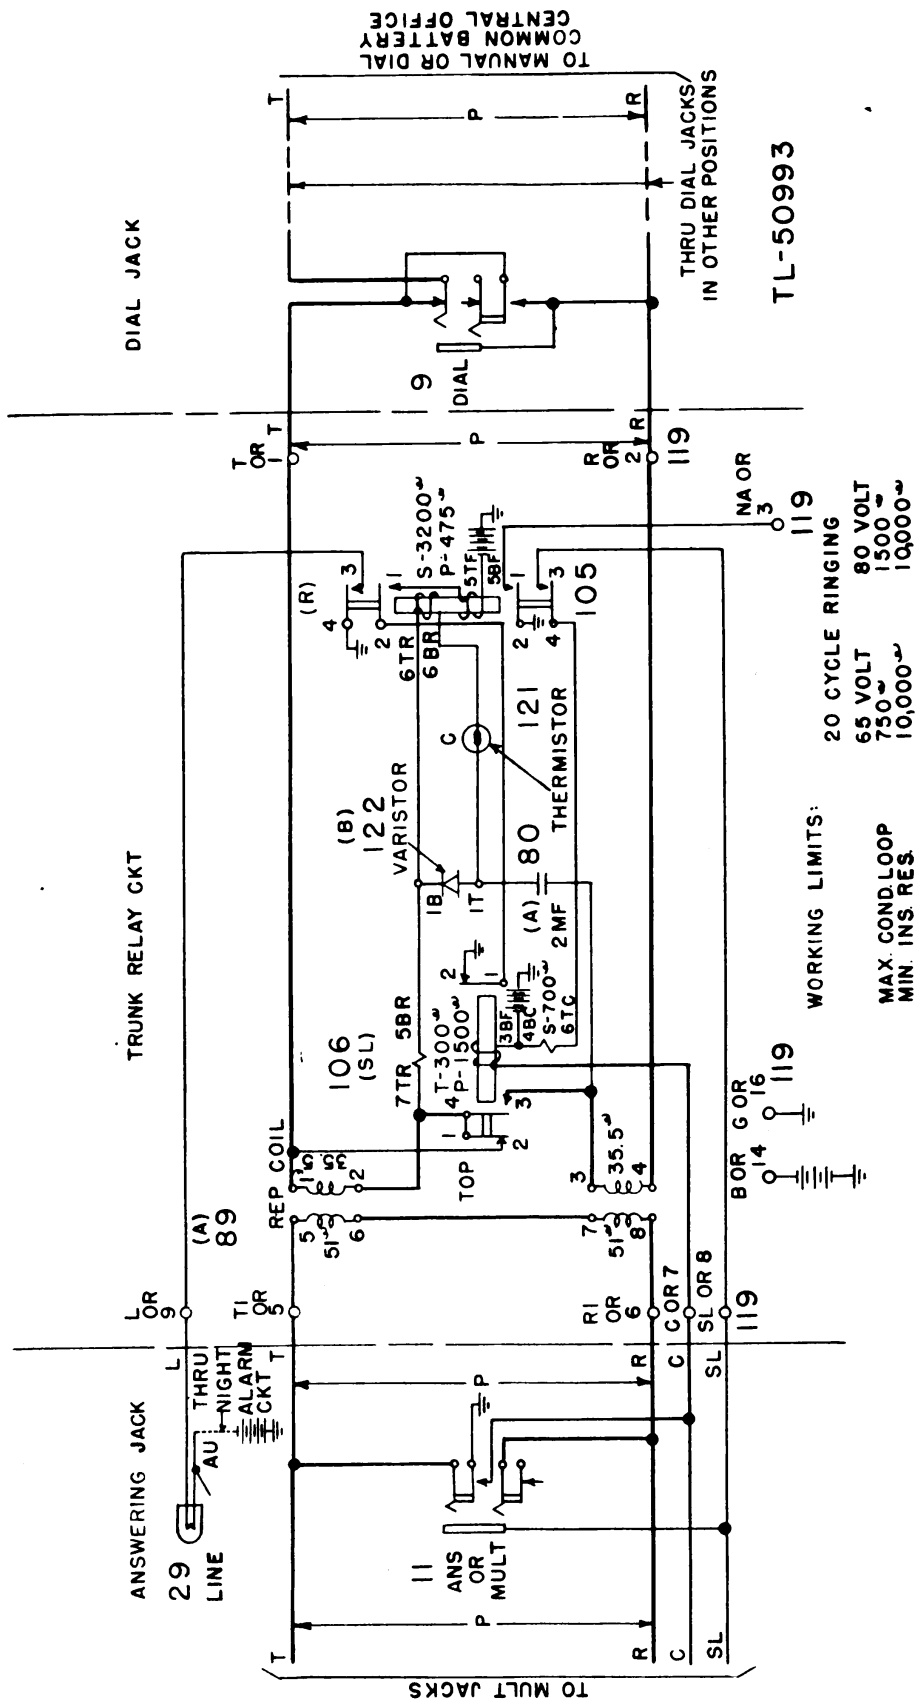

Figure 35. Universal trunk circuit, schematic diagram, Switchboard BD-110-().
(1) Magneto line circuits in Switchboard BD-14, BD-71, BD-72-(), BD-80-(), BD-89-(), BD-91-(), BD-96, other BD-110-(), and commercial switchboards.
(2) Line circuits equipped with ring-down relays and arranged for two-way ringing in Switchboards BD-74 and BD-78 and in commercial switchboards.
18. TRUNK CIRCUIT, UNIVERSAL TWO-WAY TO DIAL OR MANUAL OFFICES (fig. 35). This is a universal trunk circuit with its associated dial circuit providing for two-way service between Switchboard BD-110-() and a dial (automatic) or a common battery telephone central office. This circuit can be connected to a telephone line circuit or a trunk circuit of a dial or manual common battery telephone central office. The trunk can be connected in place of any dial or manual common battery telephone.